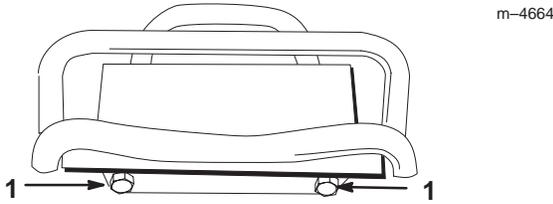

Figure 22
3. If the traction unit veers to the **left**, loosen the the **right** jam nut and adjust the tracking set screw on the front of the traction control (Fig. 22).
- If the traction unit veers to the **right**, loosen the the **left** jam nut and adjust the tracking set screw on the front of the traction control (Fig. 22).